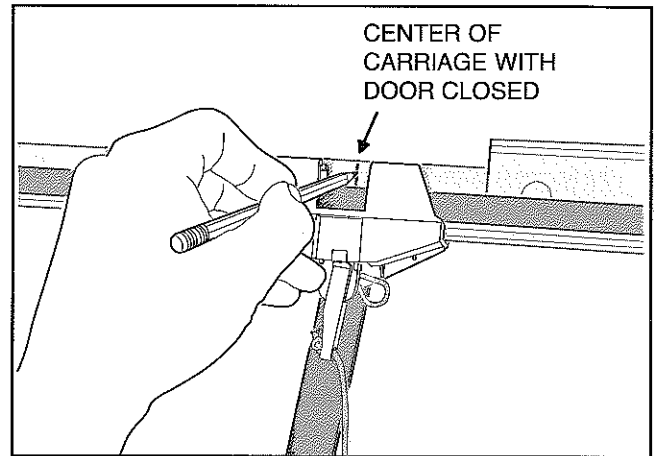

Figure 1 Mark the rail
- Mark the rail at the center of the carriage (**Figure 1**).